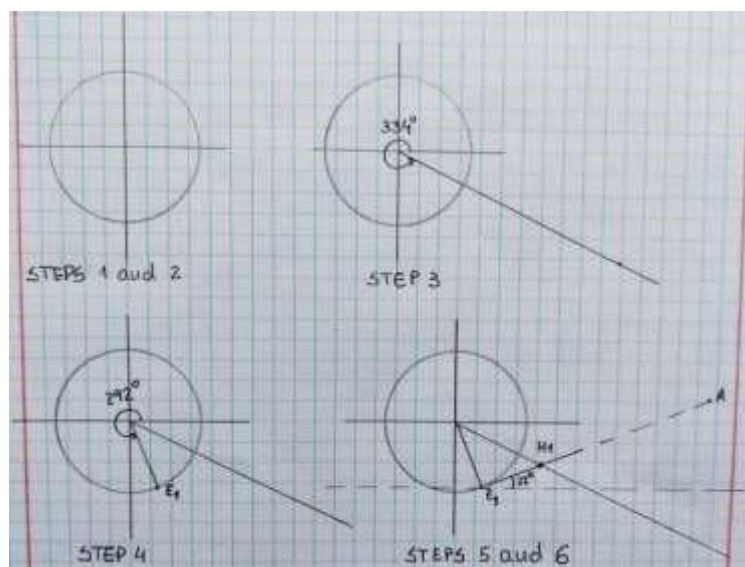

Figure 2 - Steps 1 to 6 in determining the orbit of Mars
- 5) From the position marked for Earth in step (4), draw a horizontal straight line (represented by a dashed line in Figure 2). Mark point A with the protractor at the angle of the geocentric longitude of Mars ( $22^\circ$ ) to the horizontal line. Align the ruler with  $E_1$  and point A, and mark the intersection with the line drawn in step 3 (see Figure 2);
- 6) At the intersection of the lines traced in steps (3) and (5) we mark the point  $M_1$ , corresponding to the first position determined for Mars;